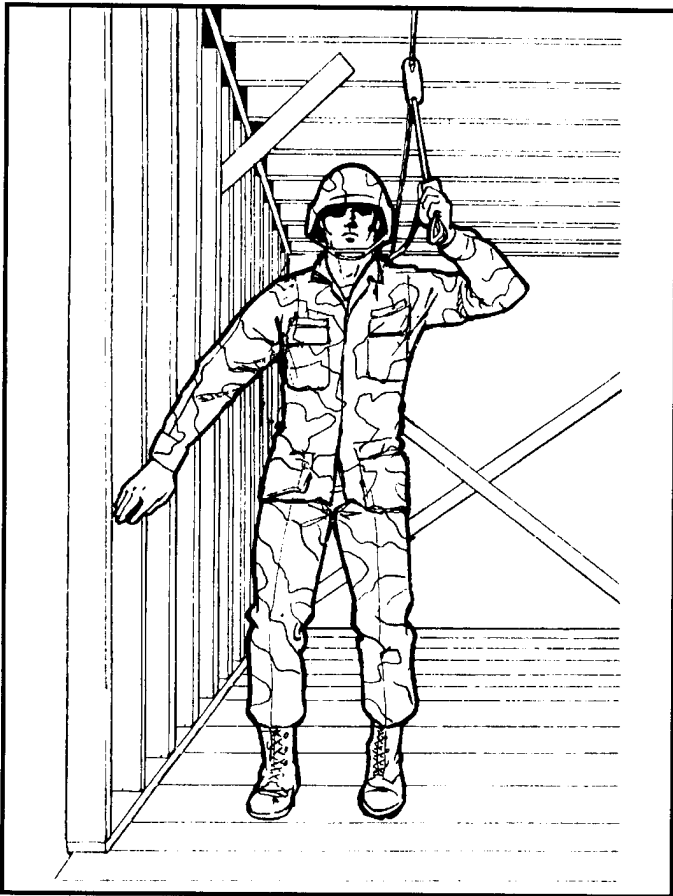

Figure 4-6. Shuffle position.
(5) **Shuffle position.** This is a method of moving toward the jump door that may be used to avoid losing balance or tripping (Figure 4-6).